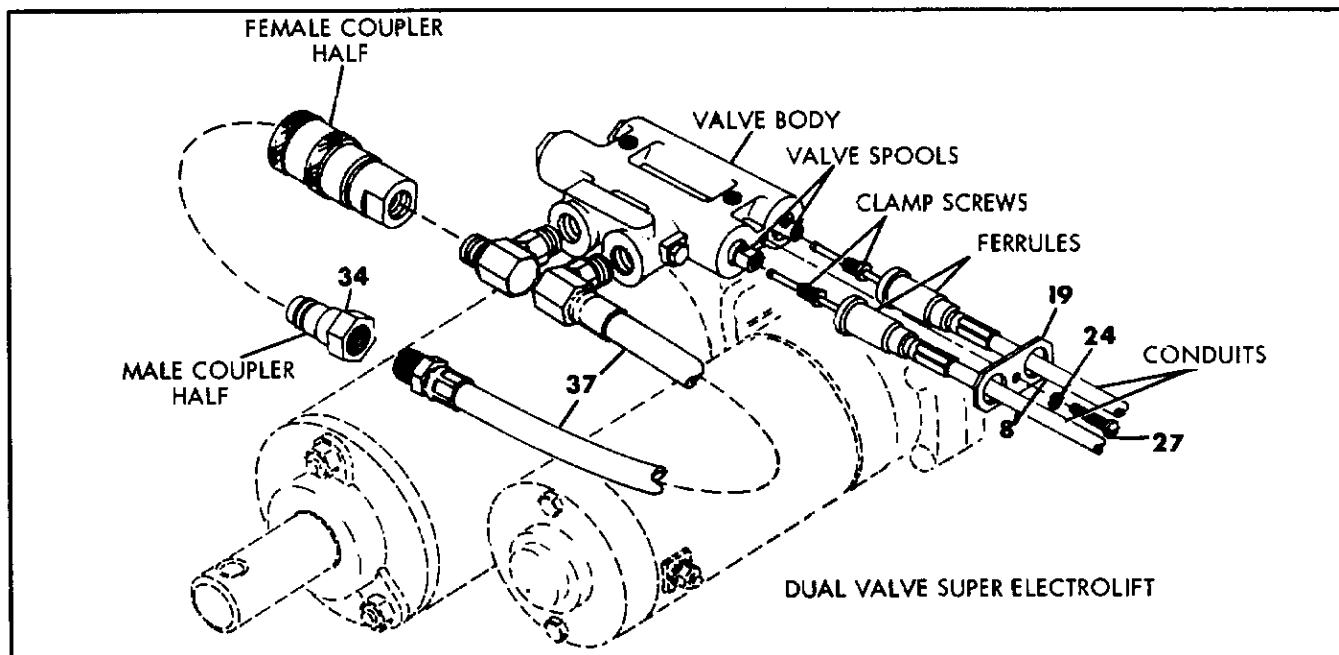

Figure 1
**NOTE:** Refer to Figure 1.
- Slide the Clamp Bar (19) over the opposite ends of the Conduit Assembly (8).